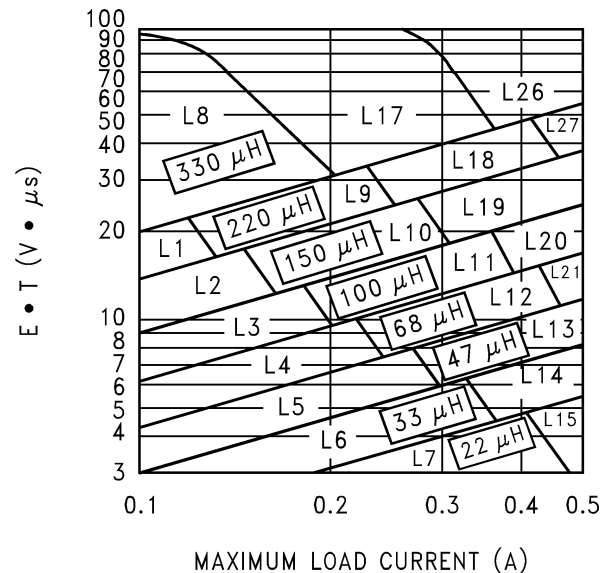

Figure 29. LM2597/LM2597HV-ADJ
2. Inductor Selection (L1) A. Calculate the inductor Volt microsecond constant $E \cdot T$ ($V \cdot \mu s$), from the following formula: $E \cdot T = (V_{IN} - V_{OUT} - V_{SAT}) \cdot \frac{V_{OUT} + V_D}{V_{IN} - V_{SAT} + V_D} \cdot \frac{1000}{150} (V \cdot \mu s)$ where V_{SAT} = internal switch saturation voltage = 0.9V V_D = diode forward voltage drop = 0.5V B. Use the $E \cdot T$ value from the previous formula and match it with the $E \cdot T$ number on the vertical axis of the Inductor Value Selection Guide shown in Figure 29. C. on the horizontal axis, select the maximum load current. D. Identify the inductance region intersected by the $E \cdot T$ value and the Maximum Load Current value. Each region is identified by an inductance value and an inductor code (LXX). E. Select an appropriate inductor from the four manufacturer's part numbers listed in Table 3.	2. Inductor Selection (L1) A. Calculate the inductor Volt • microsecond constant ($E \cdot T$), $E \cdot T = (28 - 20 - 0.9) \cdot \frac{20 + 0.5}{28 - 0.9 + 0.5} \cdot \frac{1000}{150} (V \cdot \mu s)$ $E \cdot T = (7.1) \cdot \frac{20.5}{27.6} \cdot 6.67 (V \cdot \mu s) = 35.2 (V \cdot \mu s)$ B. $E \cdot T = 35.2 (V \cdot \mu s)$ C. $I_{LOAD(max)} = 0.5A$ D. From the inductor value selection guide shown in Figure 29, the inductance region intersected by the 35 ($V \cdot \mu s$) horizontal line and the 0.5A vertical line is 150 μH, and the inductor code is L19. E. From Table 3, locate line L19, and select an inductor part number from the list of manufacturers part numbers.